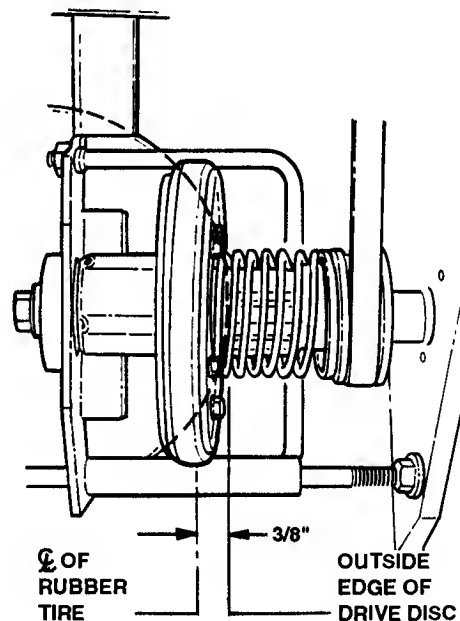

FIGURE 3.11
- Check the dimension from the centerline of the rubber tire to the outside of the drive disc. It should measure 3/8". See Figure 3.11.